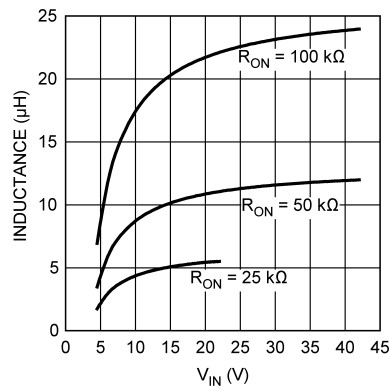
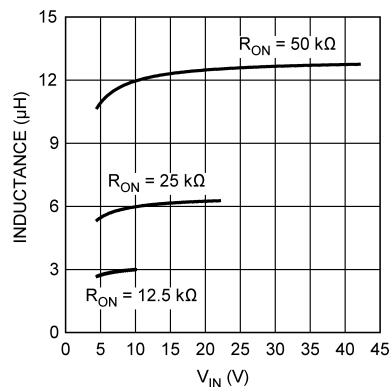

Figure 8. Inductor selection for $V_{OUT} = 3.3V$
Figure 9. Inductor selection for $V_{OUT} = 0.8V$
Figure 8 and Figure 9 show curves on inductor selection for various V_{OUT} and R_{ON} . For small R_{ON} , according to (8), V_{IN} is limited. Some curves are therefore limited as shown in the figures.